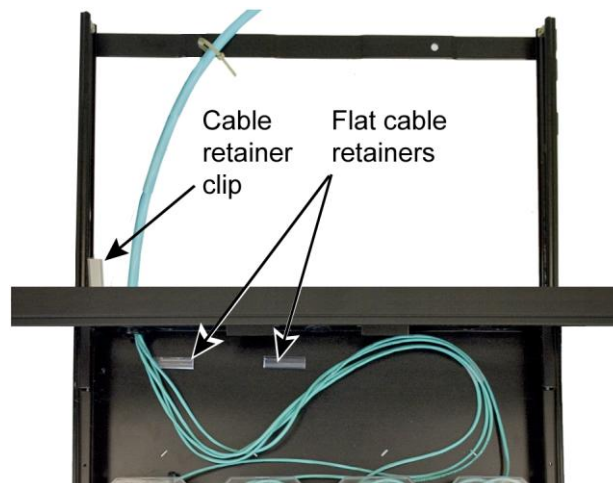

Figure 6 Installing the Cable Retainers Inside of the Shelf
1. Install two flat cable retainers inside the shelf in the locations shown (Figure 6).
Install one cable retainer clip on the inside of the sliding rail as shown (Figure 6).